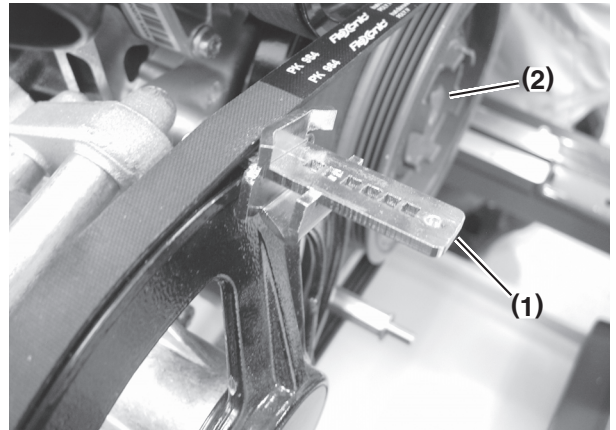

Figure 7-27
6. Install belt removal tool (**Figure 7-27, (1)**) between seawater pump pulley and belt.
7. **CAUTION! ALWAYS use care not to catch finger between belt and pulley while installing belt.** Roll the belt onto the pulley by rotating crankshaft using a socket and breaker bar on the crankshaft pulley bolt (**Figure 7-27, (2)**). Lift end of tool while rotating.